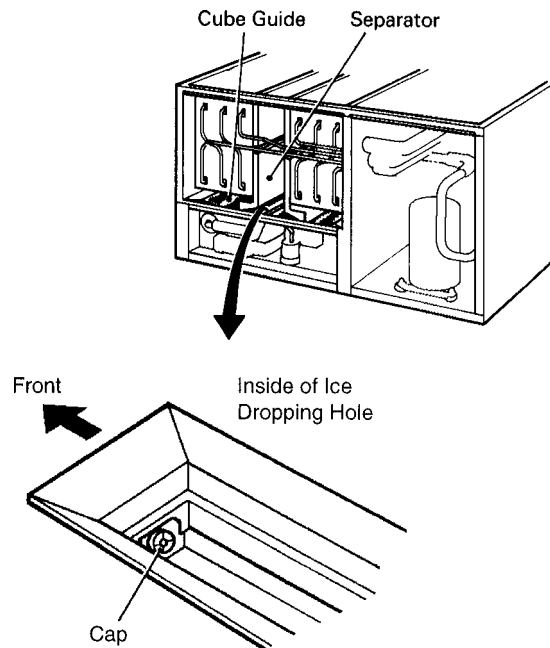

Fig. 13
- 7) Remove the Insulation Panel. Remove the Cap located on the front bottom part of the Ice Dropping Hole. Drain the Water Tank. See Fig. 13.
- 3) Remove the Insulation Panel. Remove the Cap located on the front bottom part of the Ice Dropping Hole. Drain the Water Tank. See Fig. 13.
- 5) Remove the Cap located on the front bottom part of the Ice Dropping Hole. Drain the Water Tank. See Fig. 13.